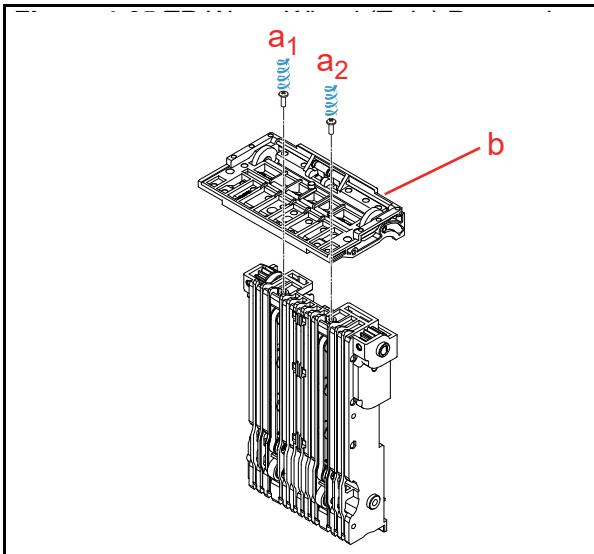

**Figure 4-64** Flap Motor Harness Assy. Removal
3. Remove the Flap Motor Harness Assy. (Figure 4-64 **a**).